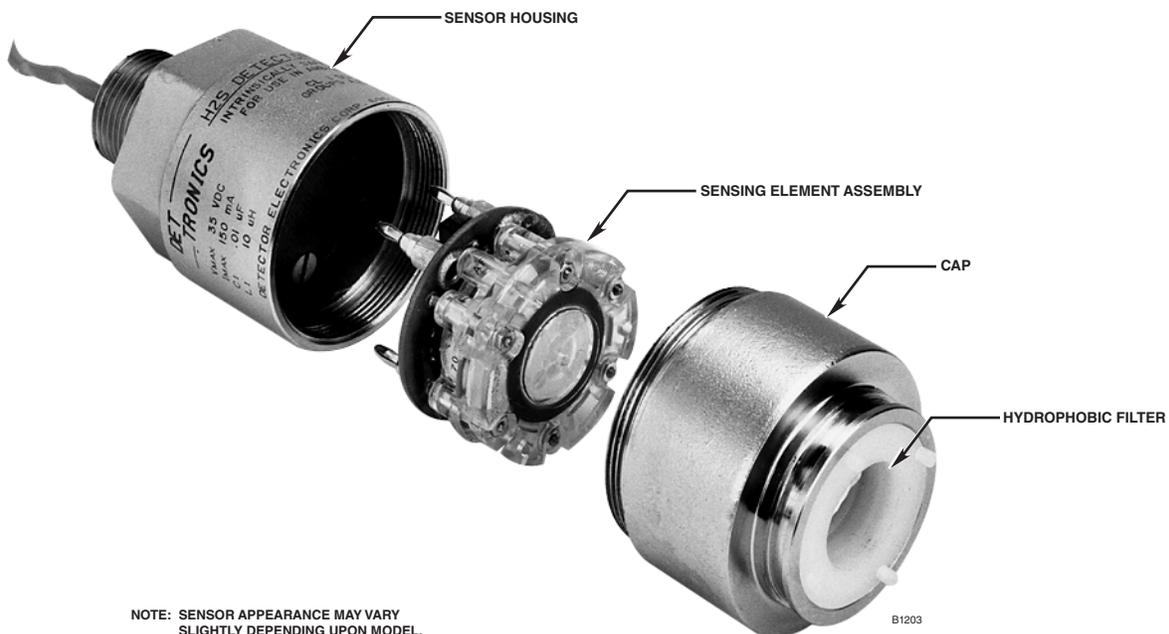

Figure 20—Electrochemical Sensor Parts Identification
2. Remove the cap from the sensor base. See Figure 20. (There is no need to remove the sensor housing from the junction box for this operation).